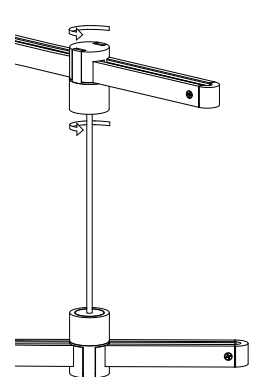

Fig. 13
4. Rotate **Power Bar** to the desired position and secure by fully tightening the **Hanger Sleeve** (Fig. 13).